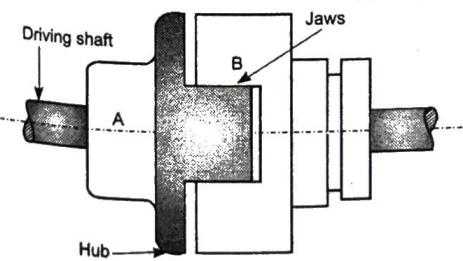

Fig. 4.30
- The configuration of the system is shown in Fig. 4.30. The member A is fixed to the driving shaft and member B is fixed to the driven shaft.